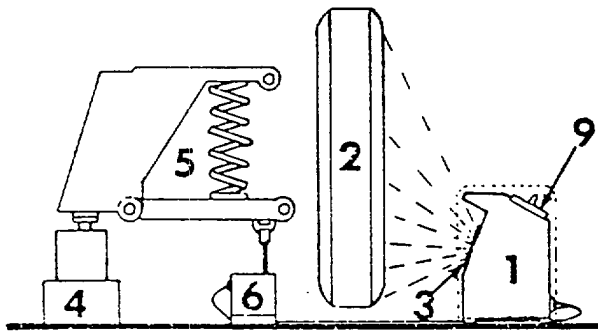

Figure 3. Balancer Hook-up
Figure 3 shows the balancer strobe unit (1) positioned to the side of a vehicle wheel (2). The strobe flashtube (3) is directed at the wheel. The vehicle frame is elevated by the jack (4) so the wheel is supported above the floor